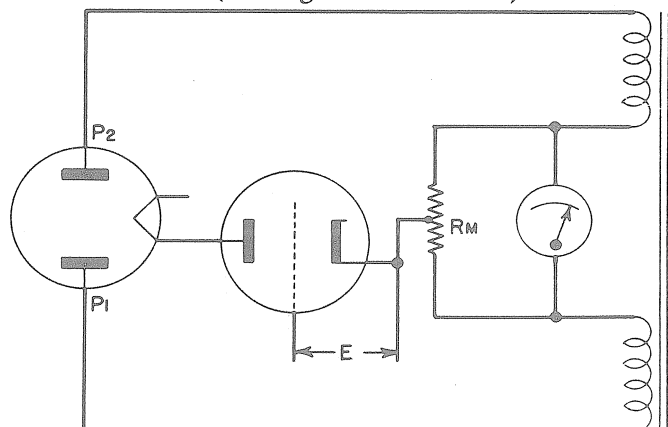

Figure 2-2. Basic Mutual Conductance
b. If the electron tube to be tested is substituted for the fixed load resistance, and a fixed bias  $E$  is applied to the tube as in figure 2-2, the meter will still read zero because an electron tube under steady-state conditions acts like a fixed resistance.